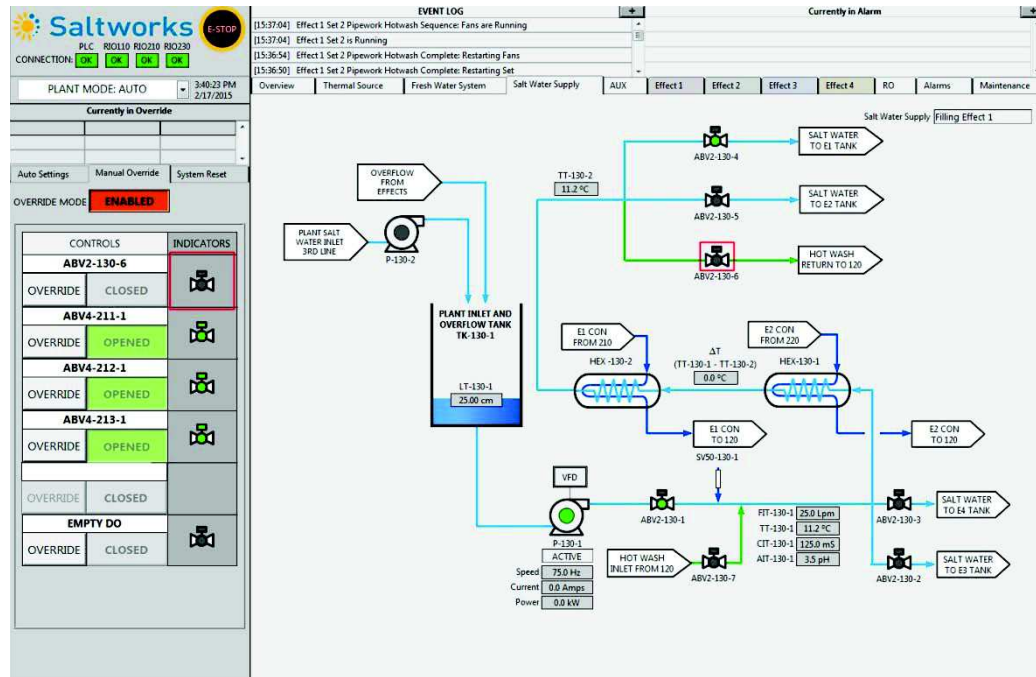

Figure 23: Selecting Instruments to Override
3. From the display tabs, click on the device that is to be manually controlled. It will be highlighted by a red box on the display tab and on the Manual Override tab as shown in Figure 23.